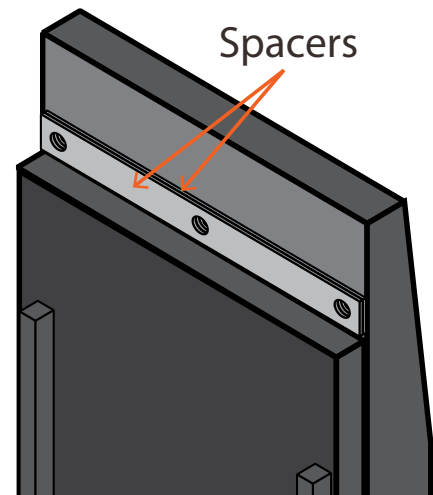

Figure 7.
3. Using the double sided tape, adhere the spacers to the front side of the speaker as shown in Figure 7. Use the speaker installation screws to line up holes.